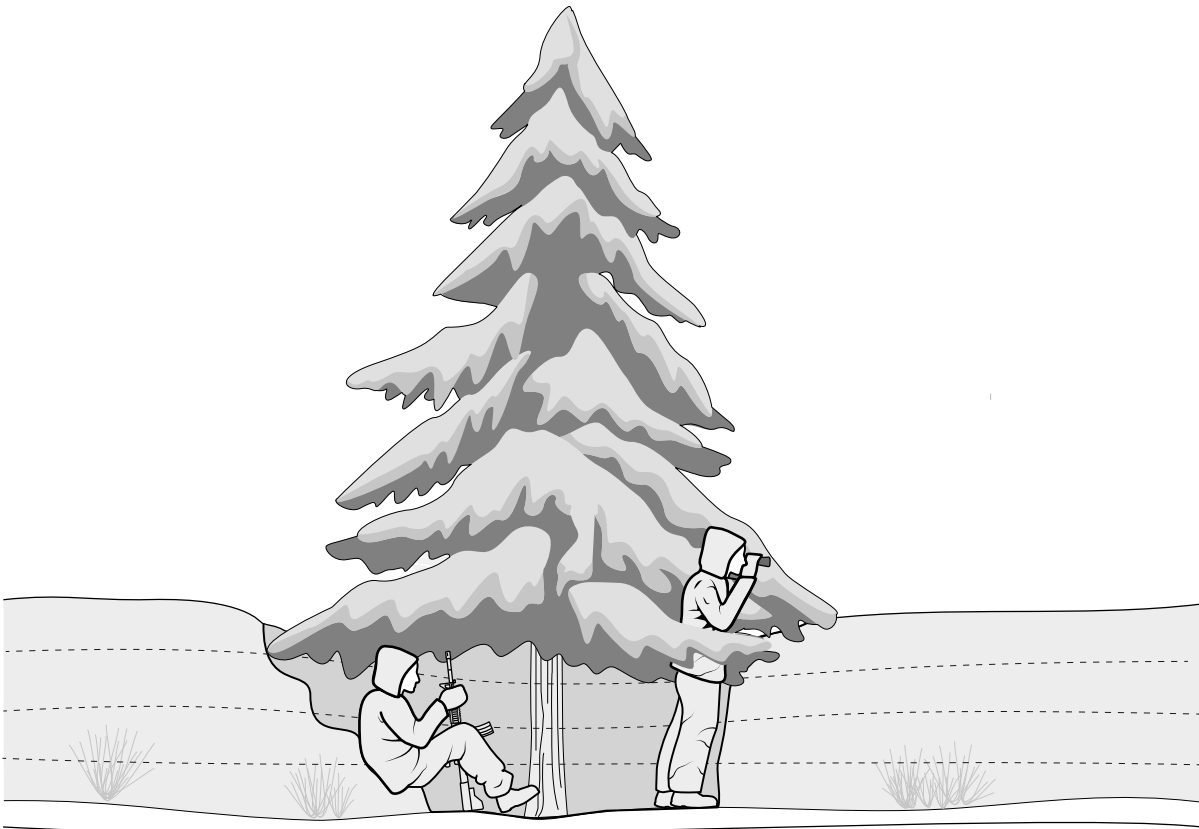

Figure 16-4. Camouflaged Shelter and Observation Post.
- Select positions that need the least amount of modification to the natural surroundings, as in Figure 16-4.